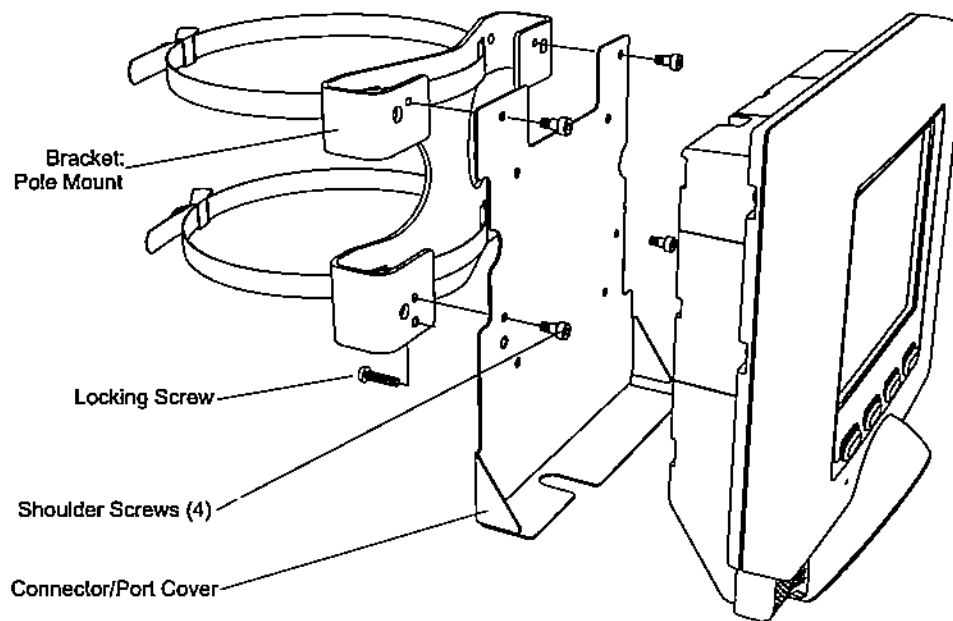

Figure 2-5. Pole Mount Kit
5. After the MK2000 is installed, screw one 8-32 pan head locking screw into the pole mount bracket bottom left tab. See Figure 2-5 on page 2-8. Hand tighten the locking screw or for additional security use a nylon locknut (not included). The locking screw prevents removal of the terminal.